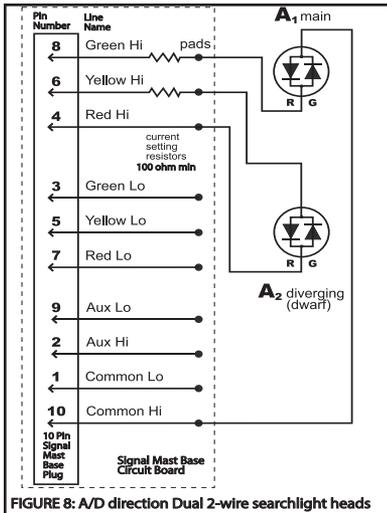

FIGURE 8: A/D direction Dual 2-wire searchlight heads
- The 2-wire searchlight examples in Figures 8 and 9 need OPSW33 = C and do